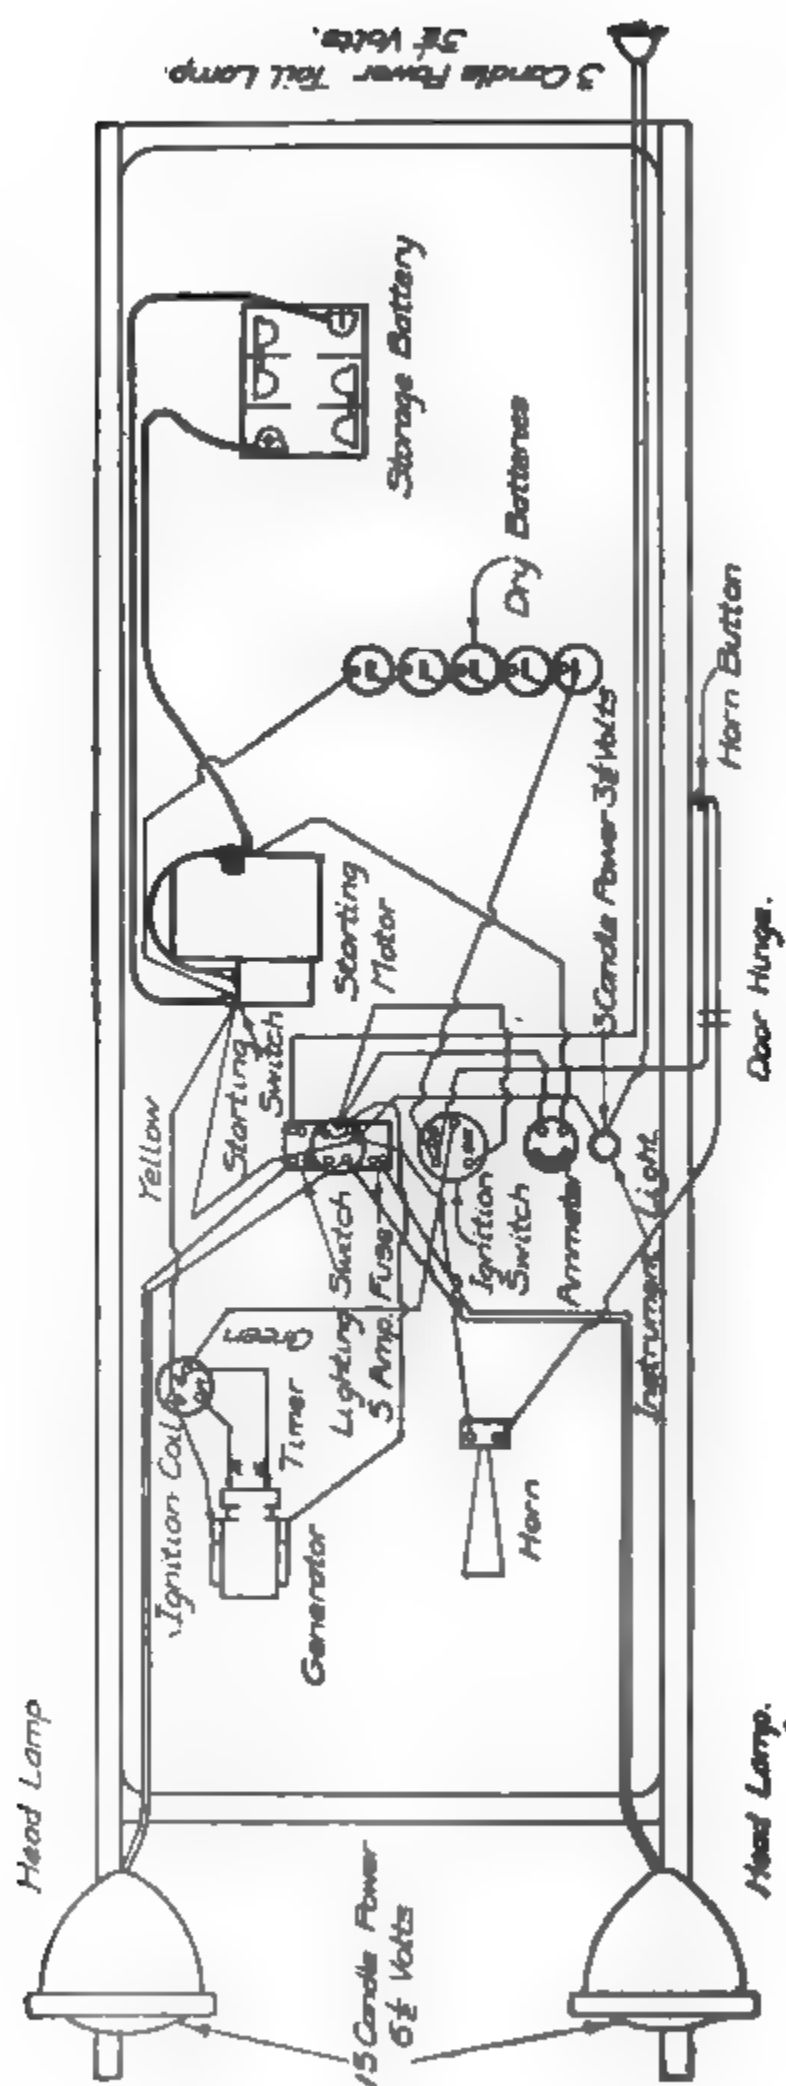

Fig. 318. Wiring Diagram for Remy Installation on "Red the Fifth"
*Reo.* On the Reo installation, Fig. 318, the starting motor is mounted on the transmission housing and drives to a shaft of the latter through a worm gear. In this case the starting switch is mounted directly on the starting motor, and an ammeter is supplied on the charging circuit instead of a telltale, or indicator.